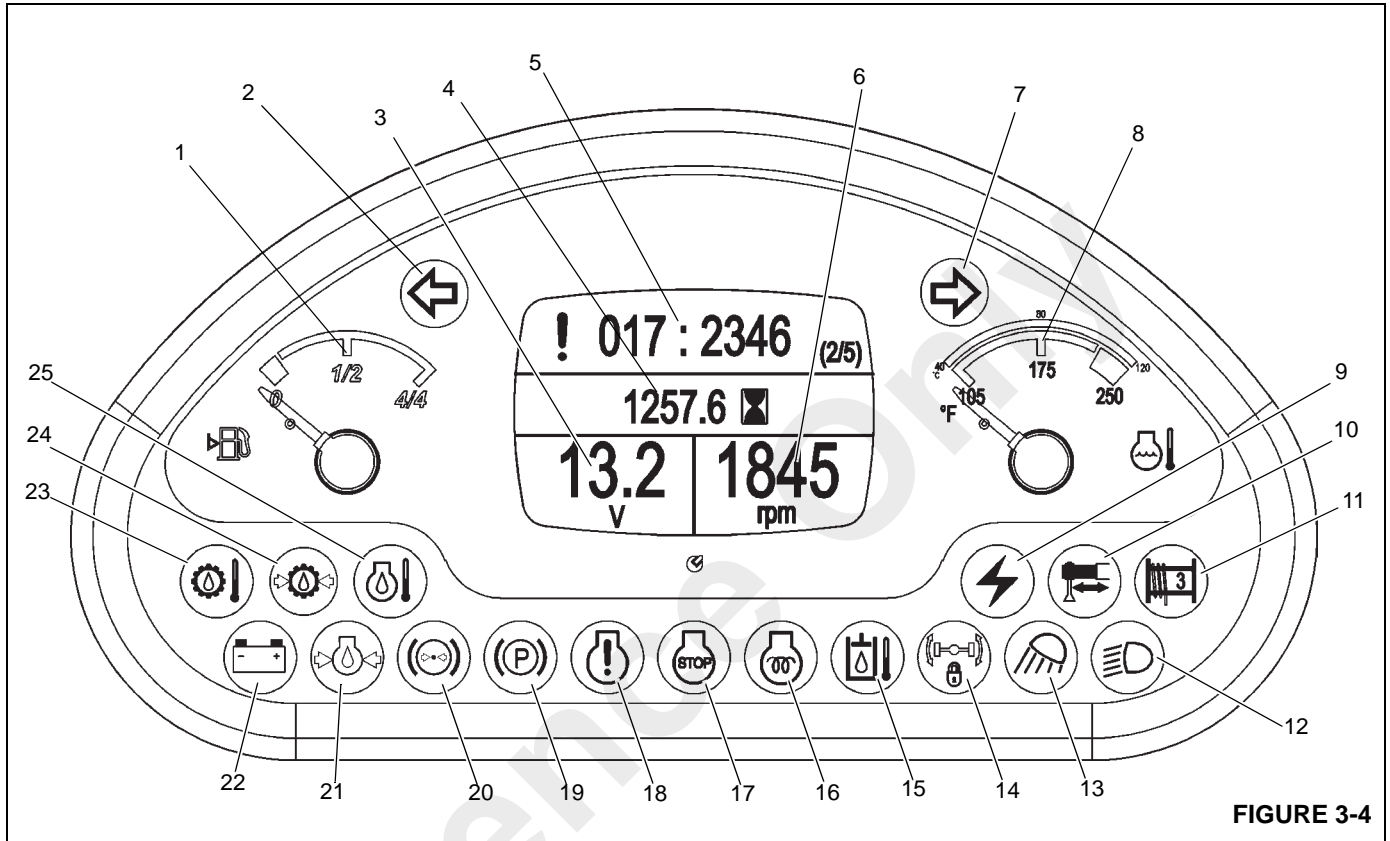

FIGURE 3-4
(Figure 3-4) Item Numbers
The Fuel Gauge (1) (Figure 3-4) indicates the quantity of fuel in the fuel tank and has a scale calibrated from 0 (empty) to 4/4 (full). The fuel gauge receives a signal from a sending unit in the fuel tank.
If the condition persists, the stop lamp (Figure 3-4) will flash to warn the driver that the engine should be shut down and the problem resolved before starting the engine again.